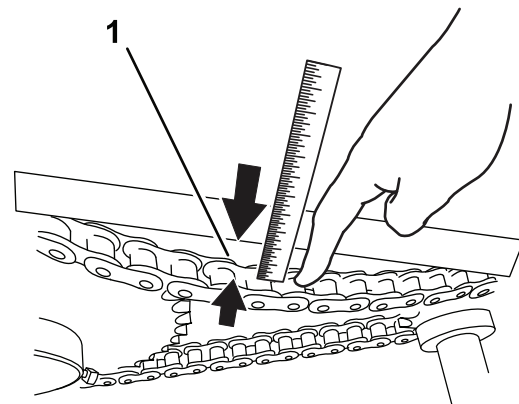

Figure 41
2. Place a straightedge along the chain from 1 sprocket to the other (Figure 41).
3. With your finger, push on the chain with 6.8 kg (15 lb) of pressure, midway between the sprockets (Figure 41).